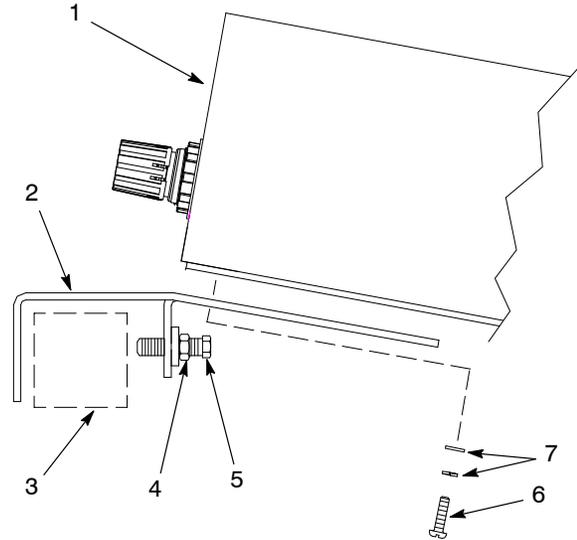

Figure 4 Rail-Mounting Bracket
1. See Figure 4. Remove the three M5 pan-head screws (6) and washers (7) from the bottom, front edge of the control unit (1).
2. Line up the holes on the bracket (2) with the holes on the control unit.
3. Use the washers and the three longer M5 pan-head screws (6) included with the bracket to secure the bracket to the control unit.